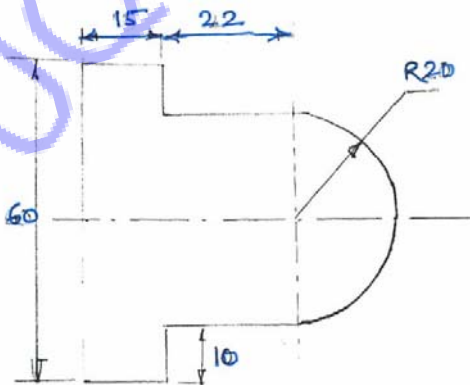

Fig. 1
- b) Find centre of pressure for a MS part as shown in fig. 1. with 1 mm thickness. Take ultimate shear strength of MS as 200 MPa **[12]**